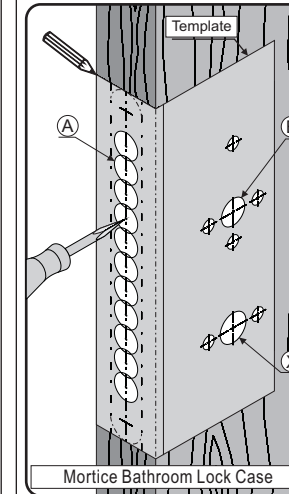

Fig. 1
- Mark position of lever handle at HOLE B and at HOLE X (thumbturn), then mark bolt through fixing positions for lever rose and thumbturn rose, or backplate. See Fig 1.